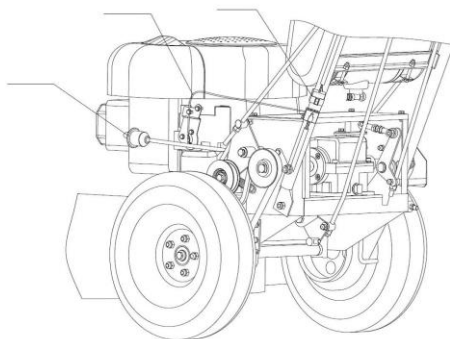

Figure 5
- The accelerator cable must be connected to the engine in accordance with the instructions for the use of engine. Fuel tank line connected to the engine line. (The positions of fuel filter and accelerator cable connector differ considerably on different engine models). See Figure 5.